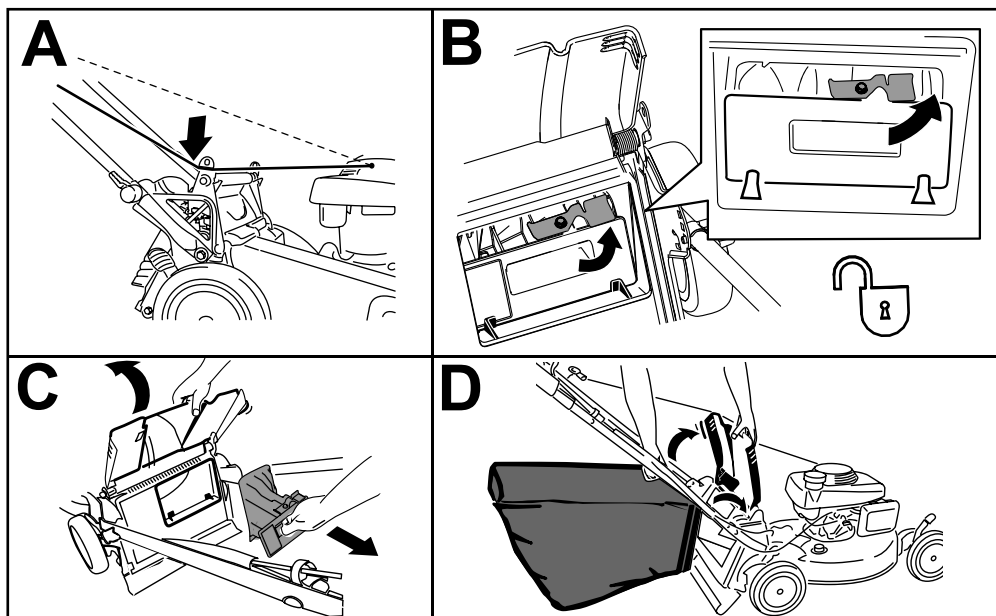

Figure 17
1. Route the starter rope around the lower-rope guide (A of Figure 17).
2. Raise and hold up the rear deflector and unlock the rear plug (B of Figure 17).
3. Pull out the rear plug (C of Figure 17).
4. Hang the upper front edge of the bag from the grass-bag pins on the notches of the handle brackets (D of Figure 17).